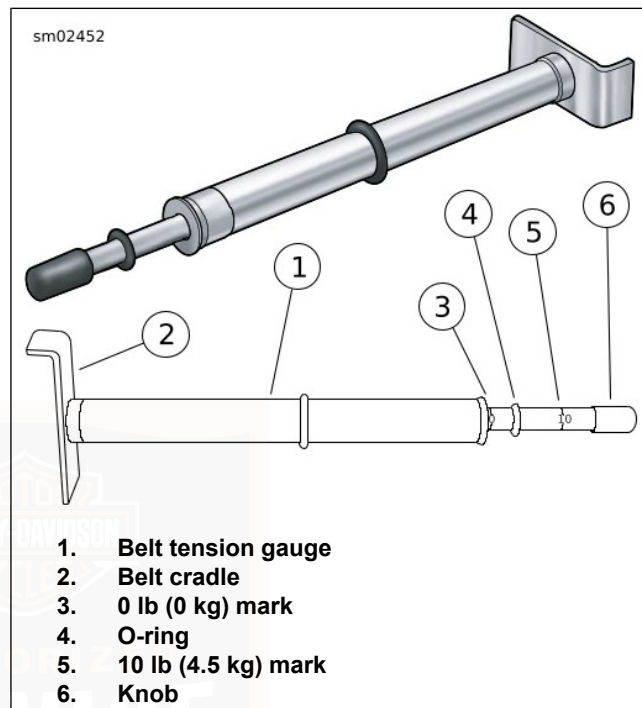

Figure 76. Belt Tension Gauge
3. See Figure 76. Measure belt deflection using: